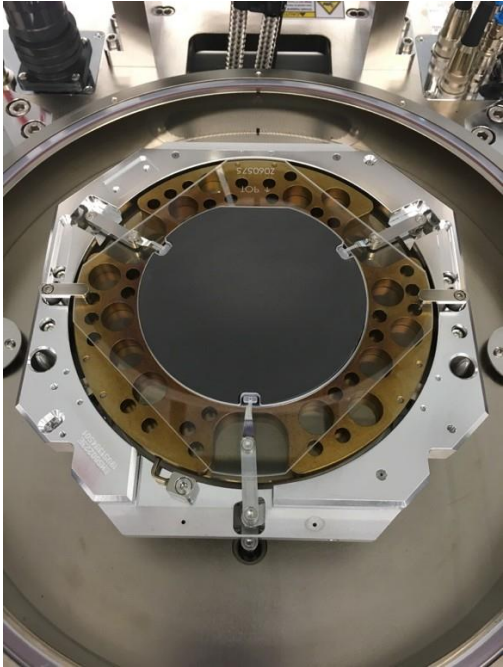

Figure 5: Electrode/inlay inside of clamping glass
8. Carefully place graphite electrode (anodic bonding) or titanium inlay (thermocompression bonding) inside of clamping glass. See Figure 5 for example.